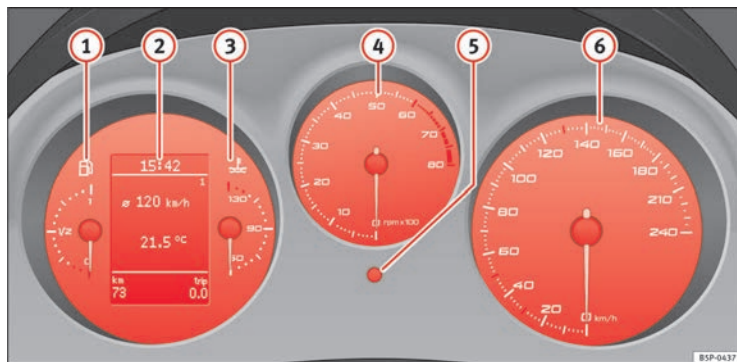

Fig. 34 Detailed view of the dash panel: instrument panel
The start of the red zone ⇒ page 57, fig. 34  indicates the maximum engine speed operating at service temperature. However, it is advisable to change up to a higher gear, move the selector lever to D or lift your foot off the accelerator before the needle reaches the red zone.
- Turn the setting knob ⇒ page 57, fig. 34  clockwise until the first “click” to set the hour. The hour will flash. To change the hour, press the button.